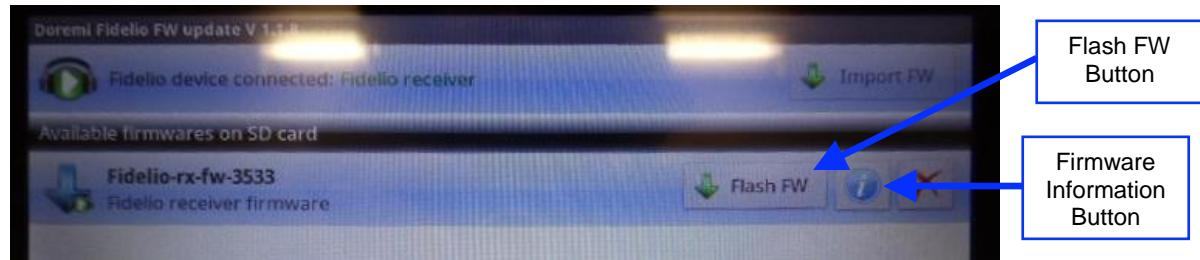

Figure 83: Available Firmwares
- Under the section titled, Available Firmwares on SD Card, the imported firmwares will be displayed (Figure 83).
- Go to the Firmware Information button (Figure 83) to make sure that the firmware version that you will be flashing the Receiver with is the desired one. The information will be displayed (Figure 84).
- Tap the Flash FW button (Figure 83). Confirm the flashing process by tapping on the Flash button (Figure 85).